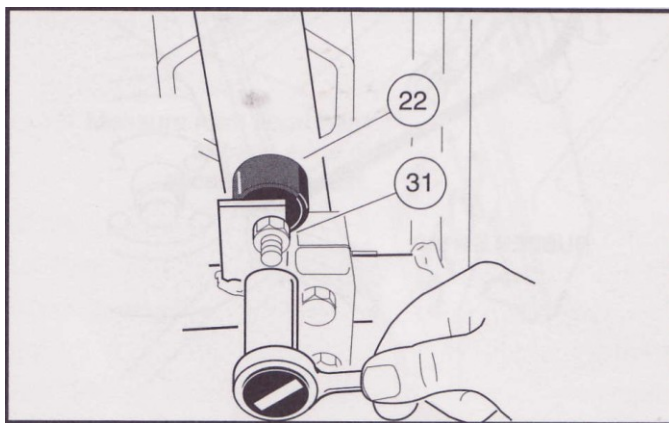
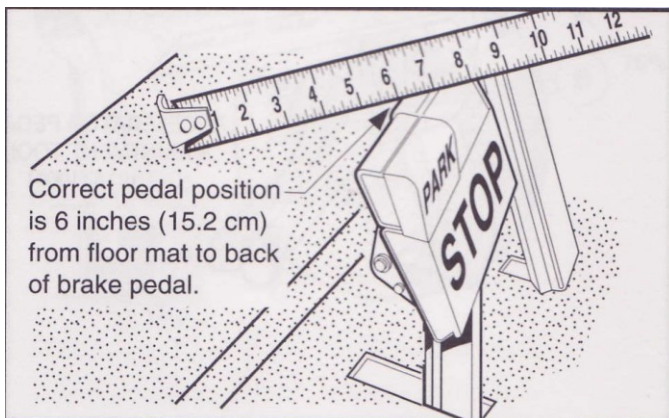

Figure 5.24
Figure 5-25
5. Loosen the brake stop arm nut (31), and then relieve pedal pressure on the stop by pushing down slightly on the pedal. Next, adjust the brake stop bumper (22) up or down (Figure 5-24). Adjusting the bumper upward decreases distance between pedal and floorboard. Adjusting the bumper downward increases the distances between pedal and floorboard. Proper brake pedal height is 6 inches (15.2 cm) (Figure 5-25).
6. Tighten the jam nut (31) to 8 ft-lb (9.5 Nm) (Page 5-18).
8. Measuring perpendicular from the floorboard to the back of the brake pedal, depress the brake pedal and measure the distance that the pedal moves before all of the slack is taken out of the brake cables (Figure 5-25).